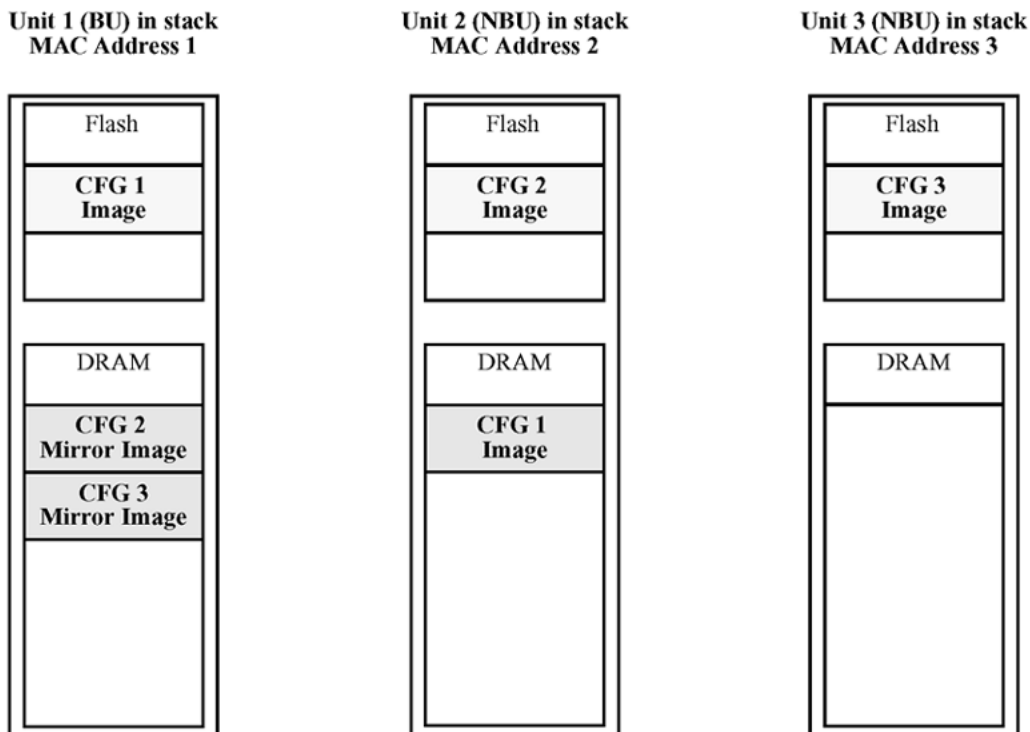

Figure 1: CFG mirror process in stack
After a power cycle, all the CFG images in a stack are mirrored. Figure 1: CFG mirror process in stack on page 36 illustrates the CFG mirror images in a three-unit stack after the stack is powered on. Unit 1 is the Base Unit (BU) and all other units are Non-Based Units (NBU).
- Unit 1 (BU) contains mirror images for unit 2 (CFG 2) and unit 3 (CFG3).